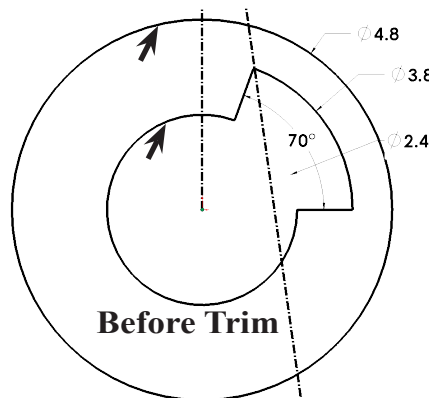
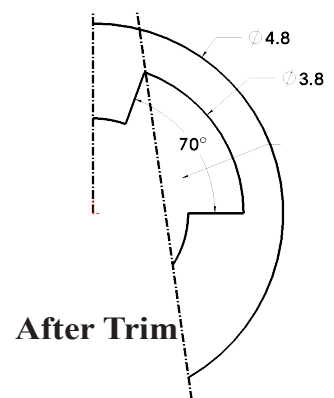

Fig. 8
Fig. 9
Step 2. In the Property Manger select **Trim to closest**  and click entities to trim, Fig. 8. Results shown in Fig. 9.